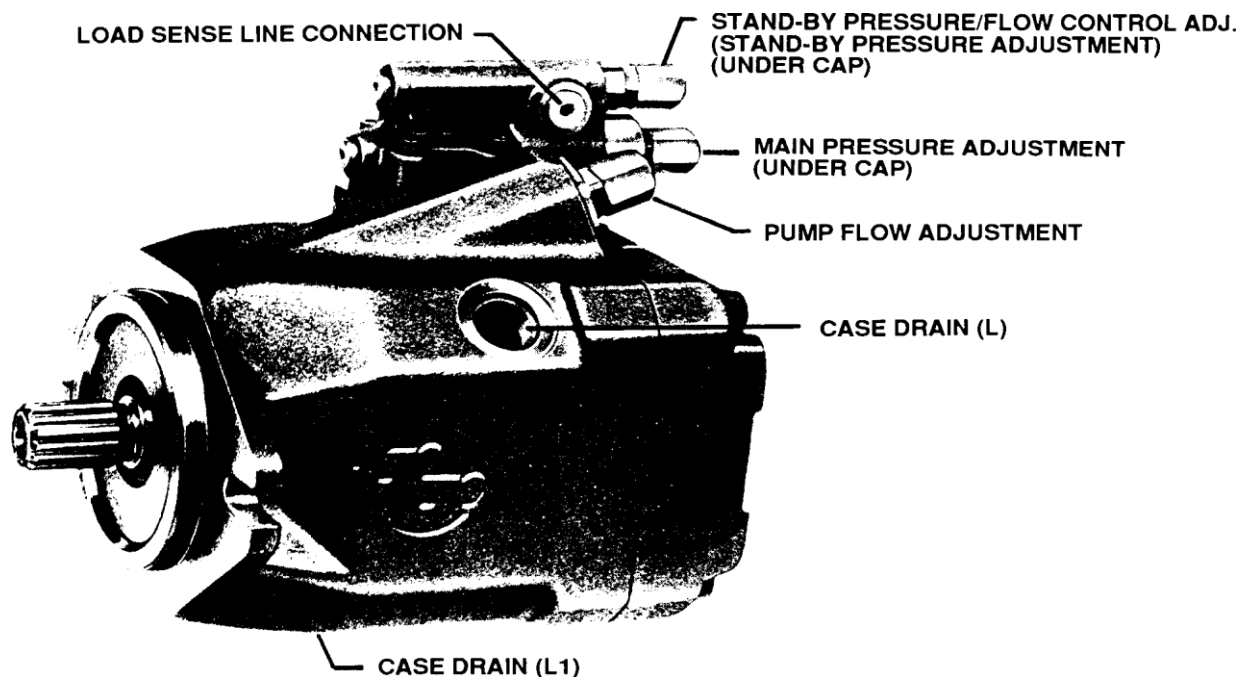

FIGURE 2. PORTS AND ADJUSTMENTS
A. Install pump on vehicle so that one of the case drain ports “L” or “L1” is on top. See Figure 2.
E. Connect the load sense line. See Figure 2.
Remove the cap over the main pressure adjustment. See Figure 2.
B. Loosen the lock nut and turn the socket head set screw counter-clockwise to reduce the maximum pressure to its minimum. (Pumps are normally shipped with this pressure adjustment set to its minimum but should be checked.) See Figure 2.
C. Remove the cap over the stand-by pressure/flow control adjustment - smaller of the two caps located above the main pressure adjustment. See Figure 2.
See Figure 2.
- C. To adjust the stand-by pressure, return all valves to neutral and read the pressure gauge. To increase or decrease this pressure, turn the stand-by pressure/ flow control clockwise (to increase) or counter- clockwise (to decrease). See Figure 2.